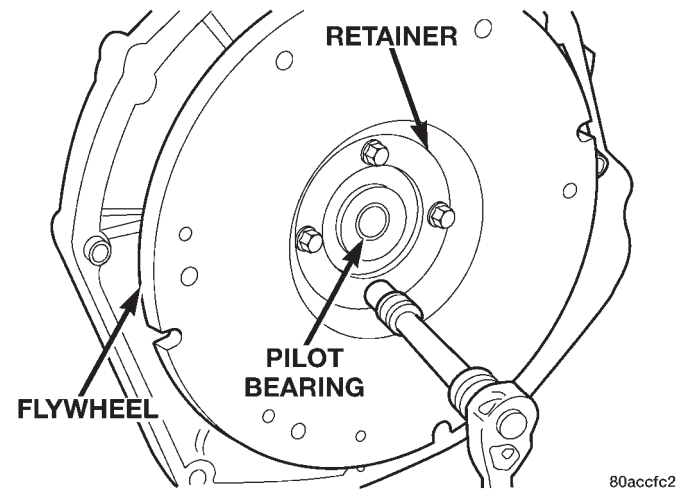
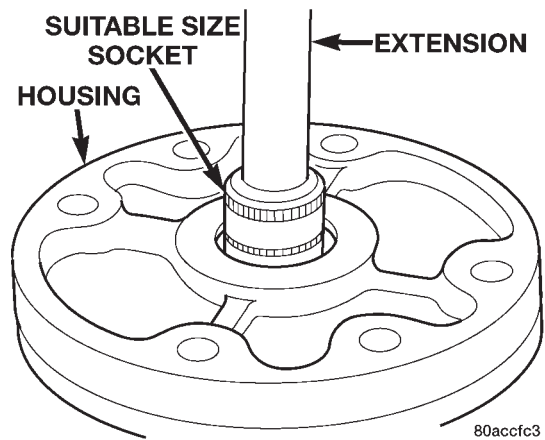

Fig. 4 Pilot Bearing Retainer Bolt Removal/Installation
Fig. 5 Pilot Bearing Removal
- (1) Remove transmission and transfer case. (Refer to Group 21, Transmissions And Transfer Case.)
- (2) Remove clutch cover and disc.
- (3) Remove the four bolts that attach the pilot bearing retainer to the flywheel (Fig. 4).
- (4) Remove the pilot bearing retainer.
- (5) Support the bearing retainer on two wood blocks.
- (6) Remove the pilot bearing with a suitable sized socket and extension (Fig. 5). Use mallet to tap bearing out of retainer.